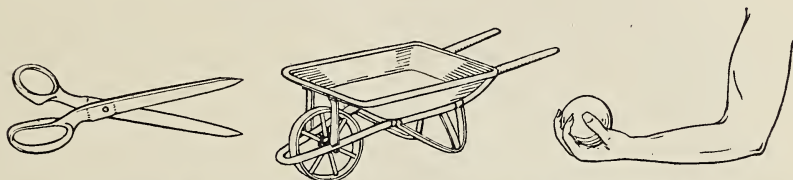

Fig. 100. Three simple applications of the principle of the lever common in everyday life.
1. Locate the effort, resistance, and fulcrum in the levers illustrated in Figure 100. Is the theoretical mechanical advantage more or less than one in each lever?